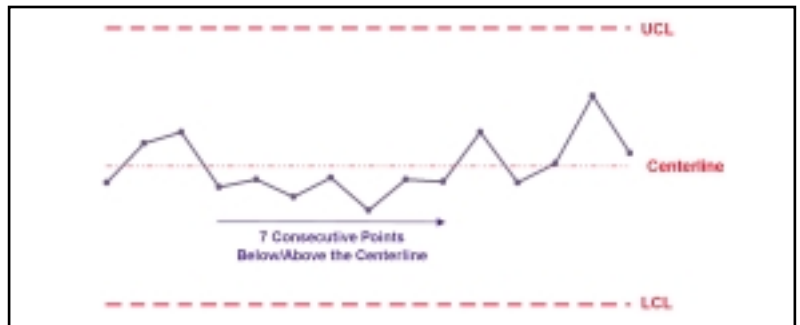

Figure 9—Consecutive points above or below centerline.
- 2.) Runs within the control limits (Figure 9)—seven consecutive points above or below the centerline,